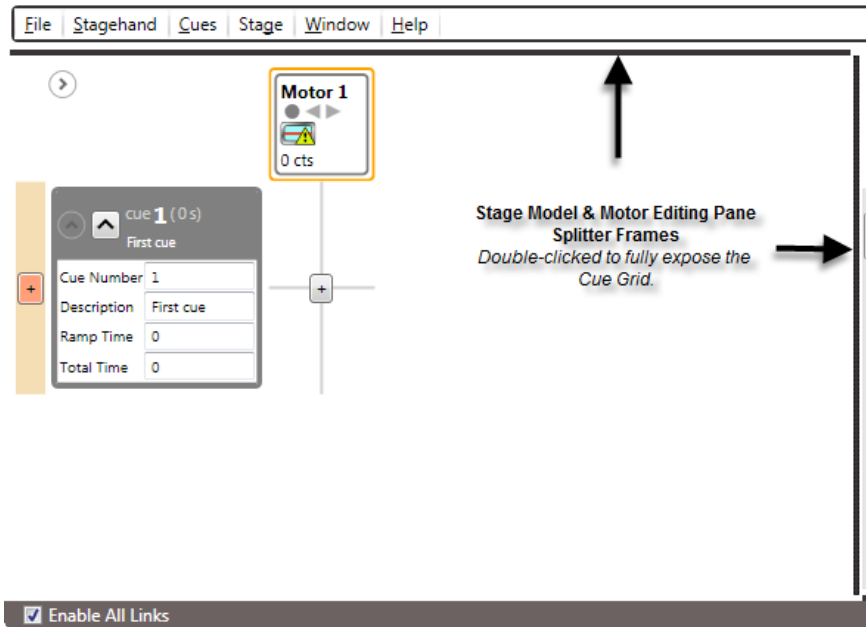

Figure 315
1. Expand the **Cue Grid** to its full size by double clicking on the **Stage Model Viewer** and the **Stagehand Editing Pane**'s Splitter Panes (Figure 315).
1. Click on the Stagehand you wish to move and drag it left or right. An indicator line will appear beneath your cursor. Drag that line where you would like to place the selected Stagehand in the order. (Figure 315)